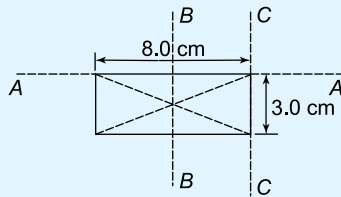

Figure 9.19
1. Determine the second moment of area and radius of gyration for the rectangle shown in Figure 9.19 about (a) axis AA (b) axis BB , and (c) axis CC .